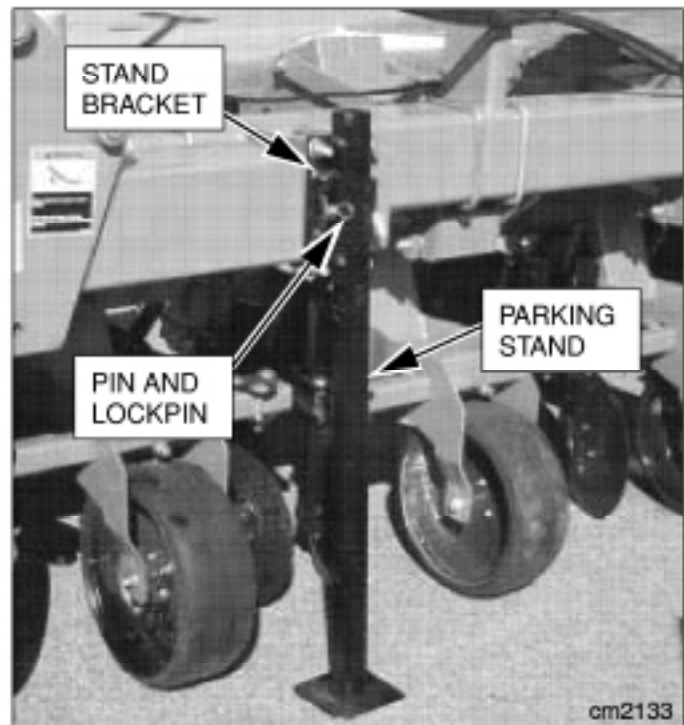

Figure 10 Front Parking Stand Lowered and Pinned
6. Lower front parking stands to the ground and pin in position so that parking stands will be vertical when the tractor is removed. See Figure 10.